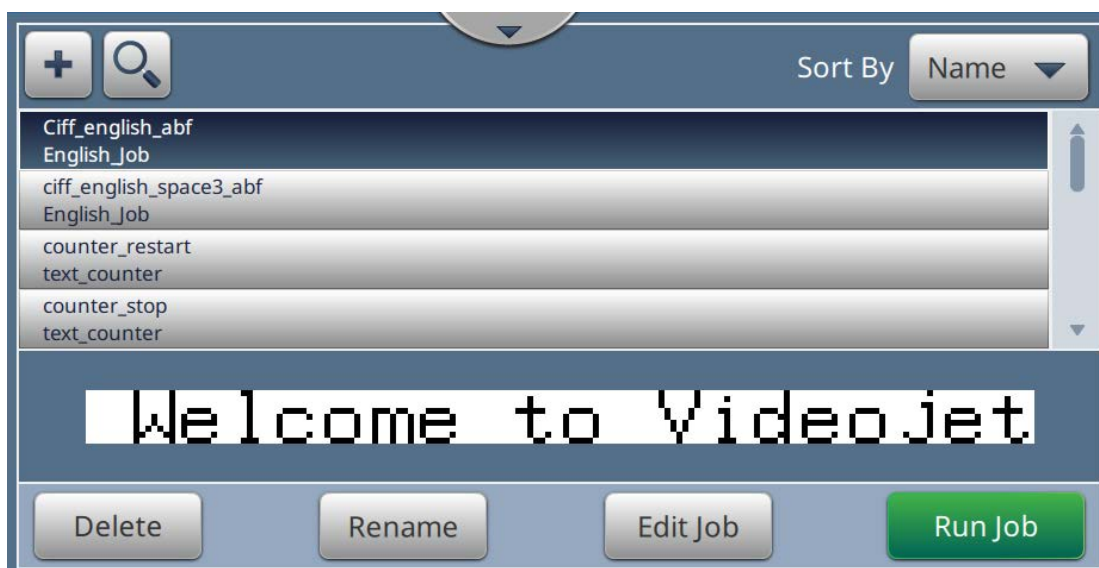

Figure 4-3: Job Selection
- The user is logged on the user access level and the user level is displayed on the top of the screen (see Figure 4-3).
- Select the required job from the list and touch the  button as shown in Figure 4-3. The job preview will be displayed.